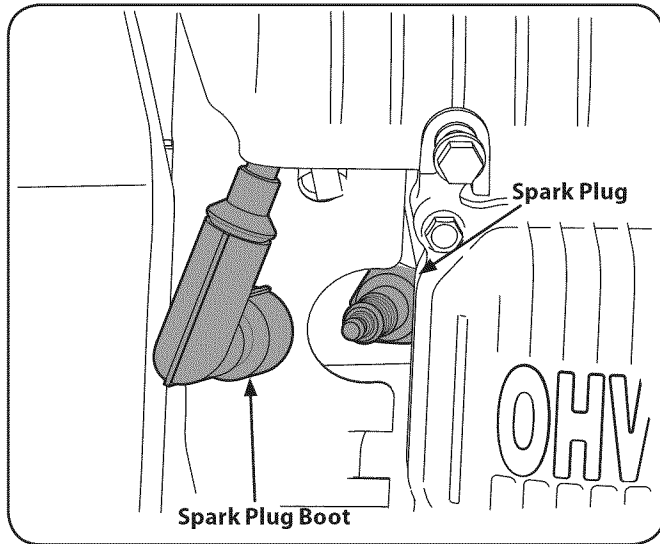

Figure 18
- Remove the spark plug boot and use a spark plug wrench to remove the plug. See Figure 18.